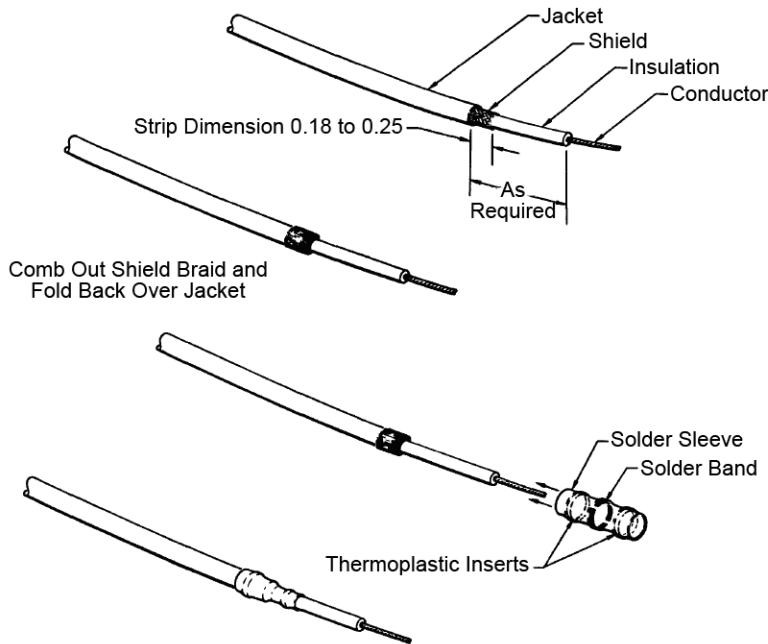

Figure 29. Solder Sleeve Floating Shield Termination
58. The floating ground shield termination is one which does not have, or require a ground lead, pigtail, or jumper. The shielding is terminated as follows (Figure 29).